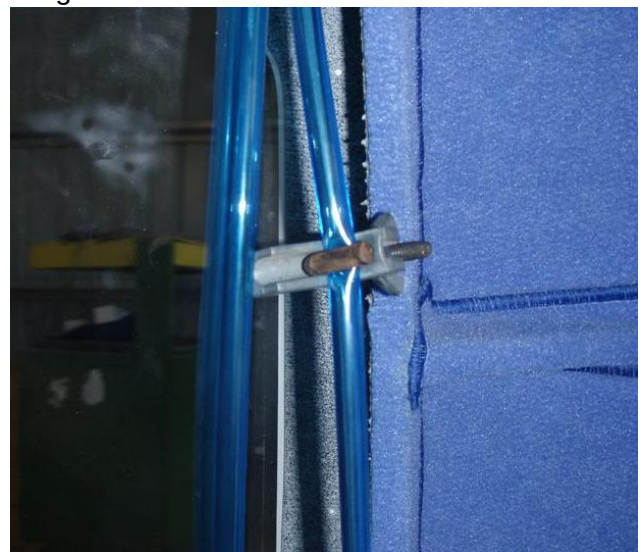

Figure 36 – Fuel Line Clamps (all J-Series, n/a J120)
Required Tools:	- Clamp suitable for crimping fuel lines without damage (Figure 36). - Fuel container to drain fuel from wings. - Accurate fuel pump or measure. (i.e. Avgas bowser).
- Next all the fuel lines from each tank need to be clamped off so that fuel does not flow between tanks or to the header tank. Use fuel line clamps as shown in Figure 36.